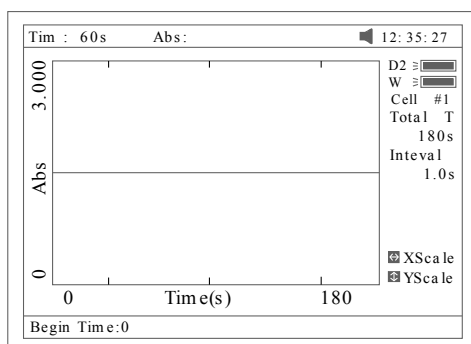
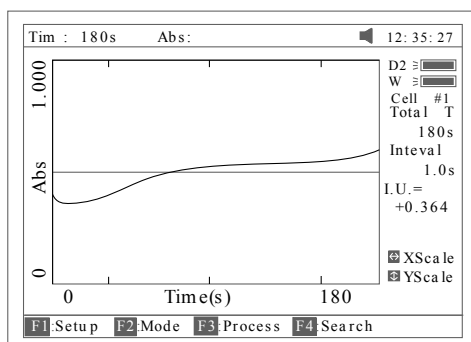

Fig 57
Fig 58
- Press **[F3]** to process the data, and enter "Begin Time", "End Time" and "Factor" (Fig 57) and the value in I.U. will be calculated and displayed (Fig 58). The average straight line between the Begin Time and End Time will be calculated. The gradient of this line gives the rate of change of $\Delta A/\text{min}$.